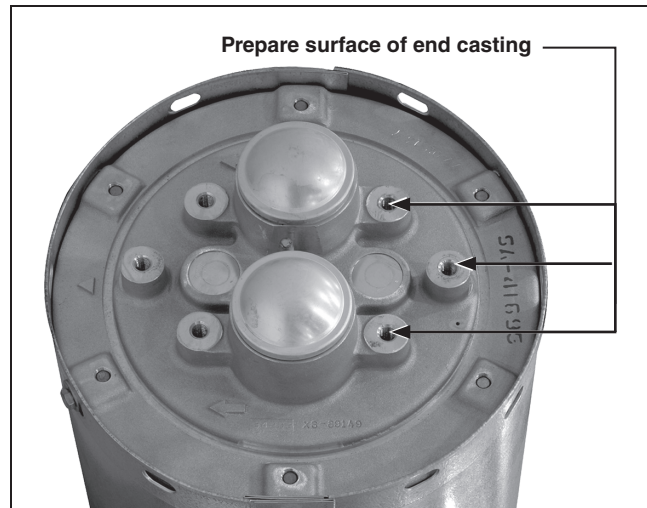

Figure 19. Wire-brushing the surface of the end casting and preparing with aluminum connector compound.
- (b) Thoroughly wire-brush the indicator end-casting where the upper terminal pad is to be attached as well as the mating surface on the upper terminal pad, and immediately apply a liberal coating of Penetrox A or other suitable aluminum-connector compound. See Figure 19.